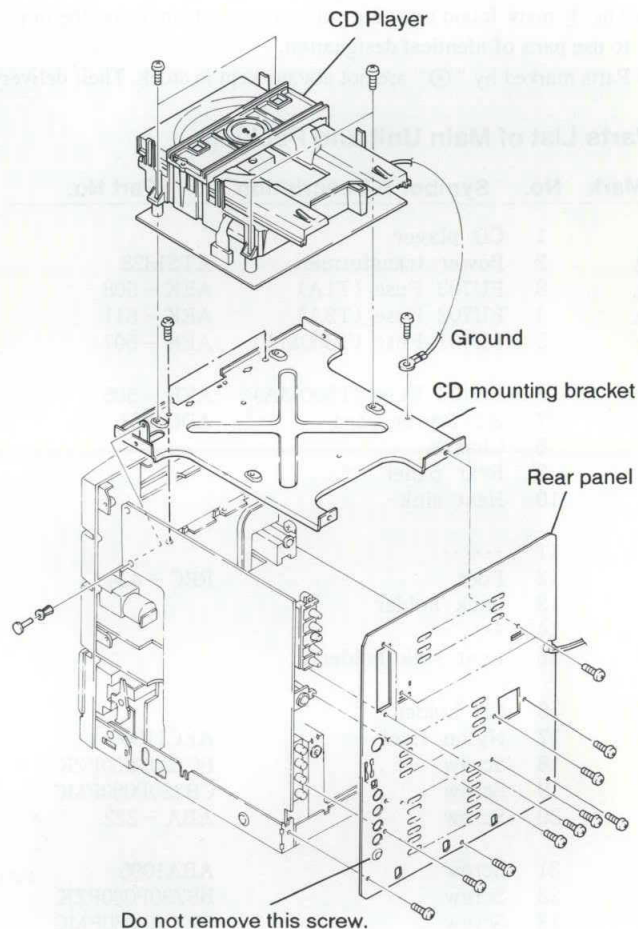

Fig. 1
- When checking the board in XR-P310, remove the parts excepting CD units, cassette mechanism units and their peripheral parts as shown in Fig. 1.
- When checking the cassette mechanism unit and surroundings, remove the followings to take out the front panel assembly from the main unit. (See Fig. 1 to 3.)